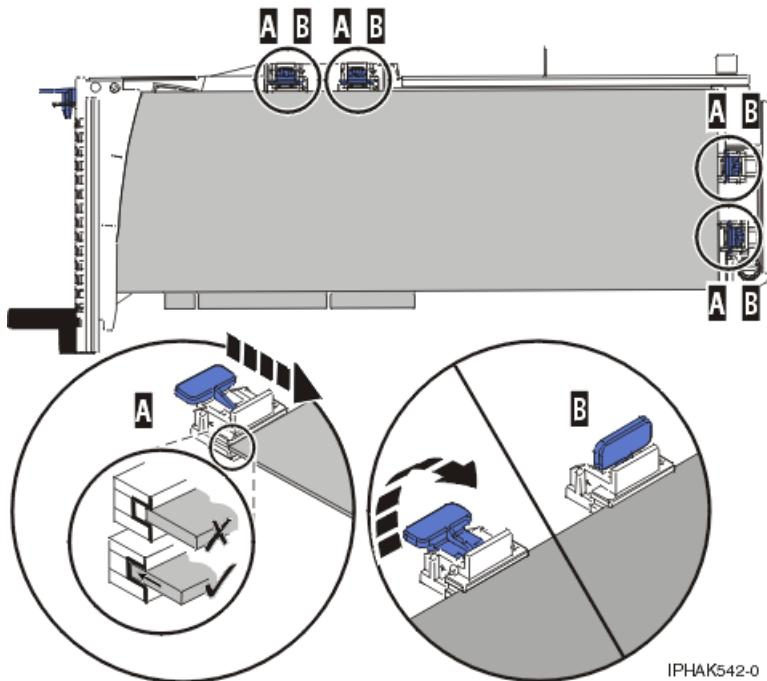

Figure 148. Long adapter in the PCI adapter cassette with the supports and stabilizer in place
- 3) Place and lock the retainers (**B**). See Figure 148.